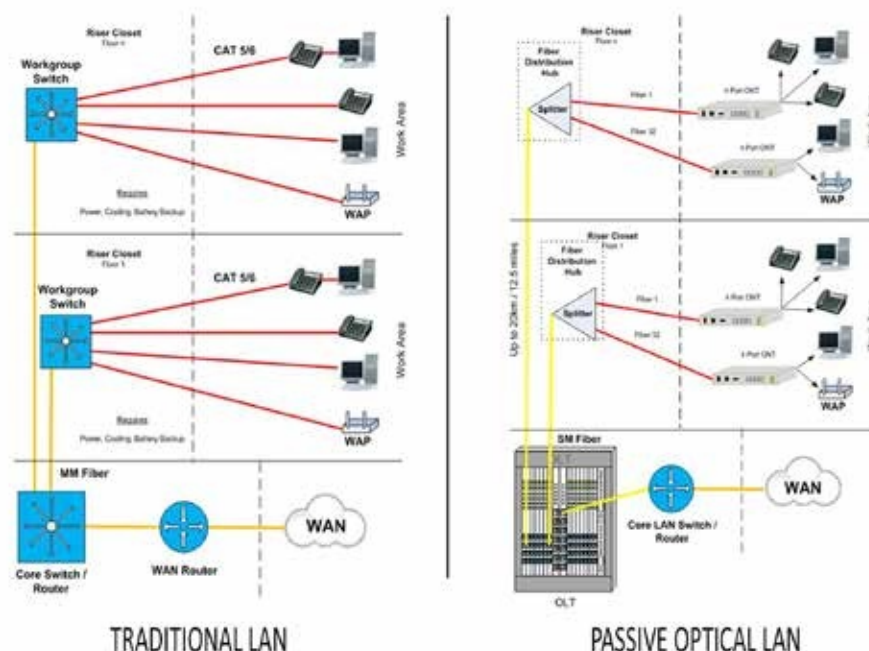

FIGURE 3: Traditional LAN versus gigabit passive optical network passive optical LAN. ¹¹
At LaGuardia Airport's new Central Terminal B, IoT and PON technologies are being integrated into the airport's terminal design. IoT-based applications are already sending real-time information to airport operators and airlines about the impact the construction is having on the passenger experience.¹⁰ Dubai Airport is perhaps the most notable, having been one of the first airports to install a PON architecture. Since PON technology has evolved for the enterprise as passive optical LAN (POL), many design and installation firms are currently touting its benefits for airports. It is potentially a viable solution for aging airports with insufficient land for terminal and other area expansions (Figure 3).
11. Figure 3, Kelly Sean; Commscope; Watts Mike; Noovis; Miller Matt; Callison RTKL, Fundamentals of Passive Optical LAN presentation; 2017 BICSI Winter Conference and Exhibition